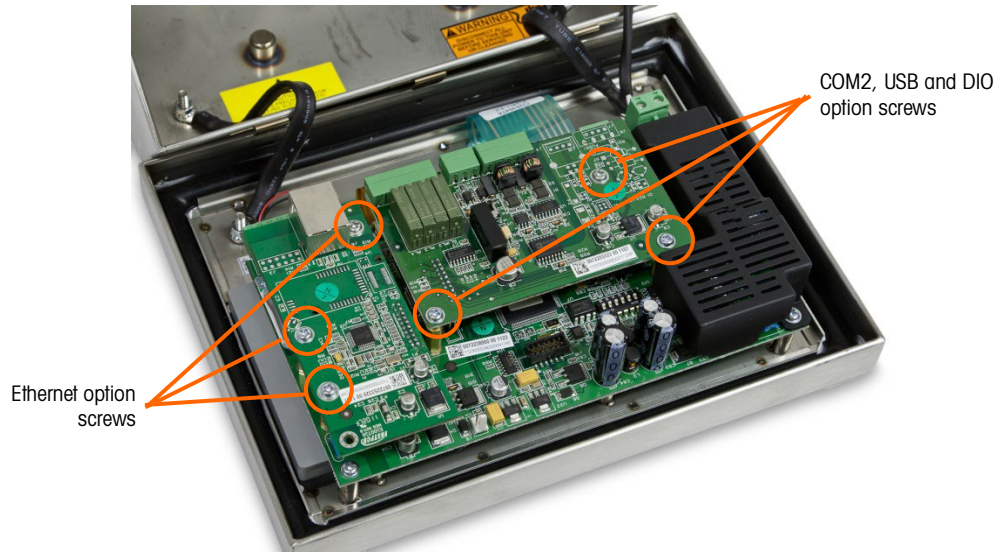

Figure 5-17: Option Board Removal
2. Use a medium Phillips screwdriver to remove the screws securing the option boards to its mounting location. Each board will be secured with three screws. Refer to Figure 5-17.
2. Position the option board over the appropriate connector on the main board and the three mounting holes identified in Figure 5-17.